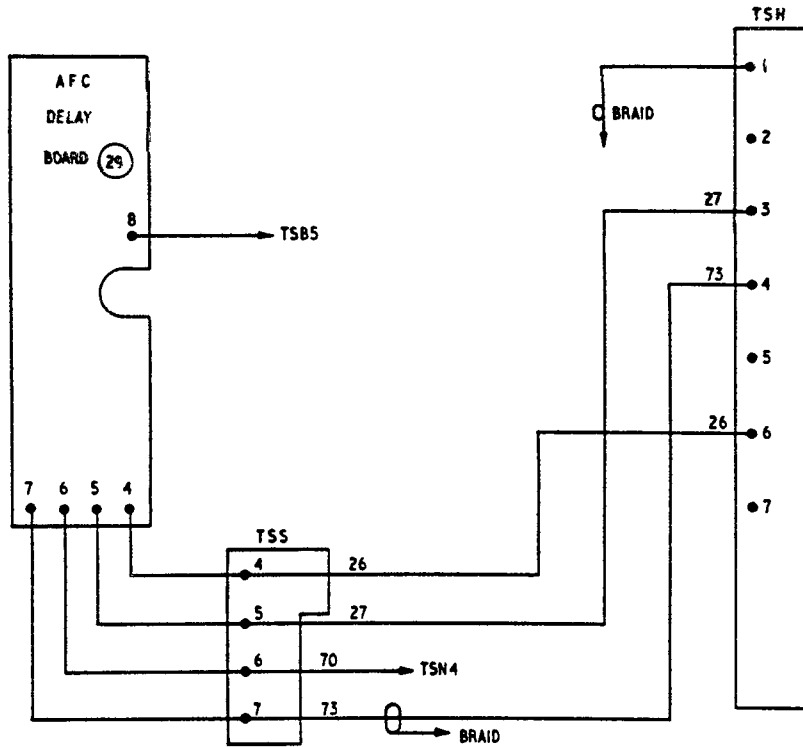

Fig 2 - Wiring diagram, p.e.c. 29 connections
j. Solder the wires prepared as detailed in sub-para g. and the screened lead assembly (wire No 73 - Plessey 640/1/13532) supplied to the tag strip TSS fitted as detailed in sub-para h. (See Fig 2).
k. Route the wires numbered 26, 27 and 73 fitted as detailed in sub-para j. down through the film scale casting along the existing cable-form to terminal strip TSH and solder to pins 6, 3 and 4 respectively of TSH and the braiding of wire 73 to pin 1 as shown in Fig 2.